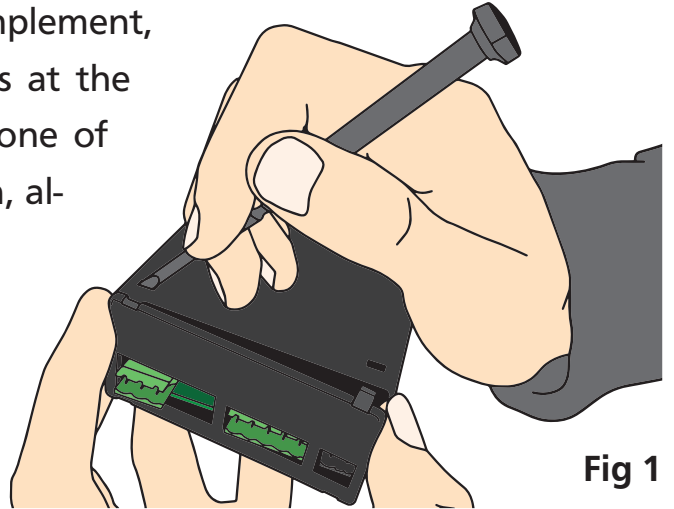

Fig 1
- C** Holding the loosened corner open with one hand, disengage the lever on the opposite slot (Fig 1).